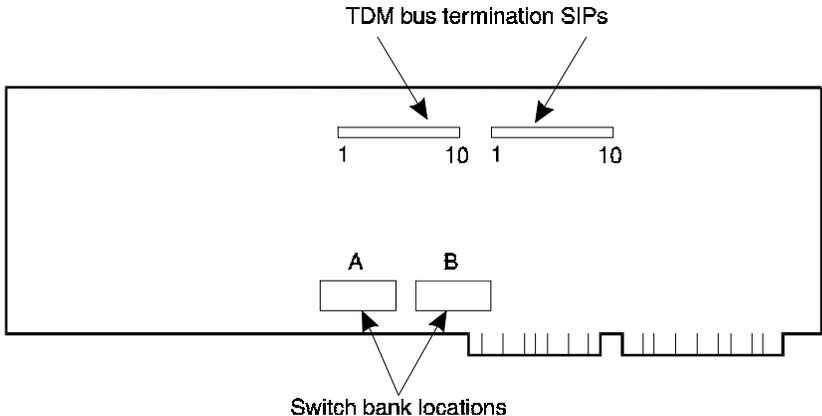

Figure 7-1. Location of Switch Banks A and B on the VRS6 (AYC1) T/R Circuit Card
- VRS6 (AYC1) — see Figure 7-1